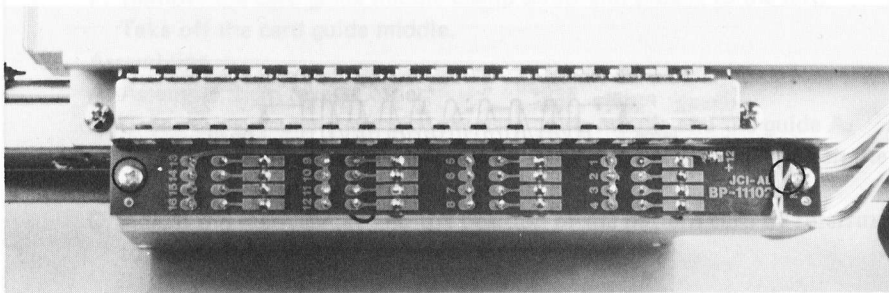

Fig. 90
- 3). Remove the two screws which clamp the belt cover (R) and the needle selector solenoid unit. (Fig. 90)